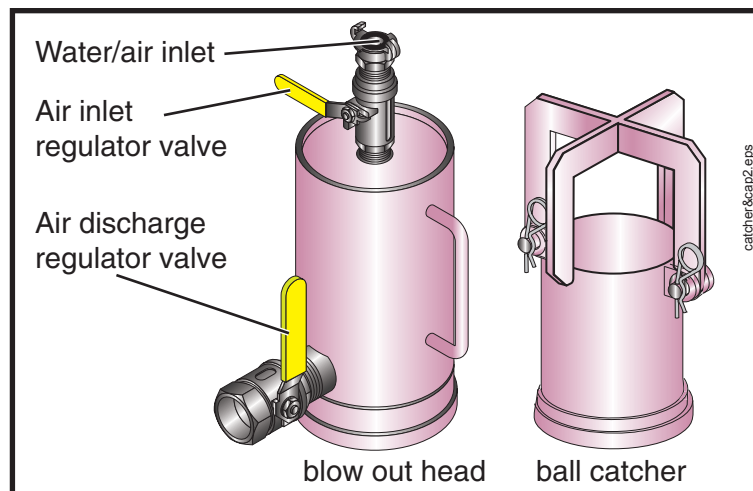

Figure 62
- **The pipe cleaning blow out head must be equipped with a properly sized air discharge regulator valve and a separate water/air inlet.** The two openings should be spaced apart far enough that a blowout ball could not cover both openings at once (Figure 62).